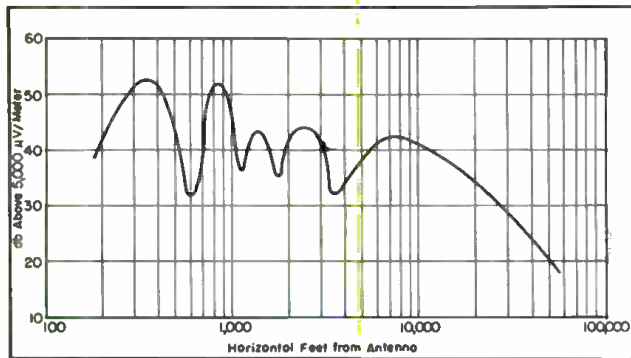

Figure 3
In this derivation the earth's radius has been taken at 5,280 miles to allow for propagation diffraction effects. Applying equation (2) to a known antenna will provide the information as to change of field intensity due to tilted beam. If the propagation attenuation characteristics are known, as for example the ground wave signal ranges, as given in the *FCC Standards of Good Engineering Practice*, the absolute field intensity can be calculated. In Figures 3 and 4 are two antenna field-intensity curves, the first for a six-bay antenna with a 7.5° beam width and the second for a 12-bay with 4.2° beam width. The data were computed on the basis of measured antenna patterns and the FCC propagation curves. A transmitter power of 5 kw, 70% efficient transmission lines, 500-foot transmitting antenna height and a 30-foot receiving antenna height were assumed. This corresponds to 24-kw erp for the six-bay and 45 kw erp for the 12-bay antenna; operation at 195 mc. These